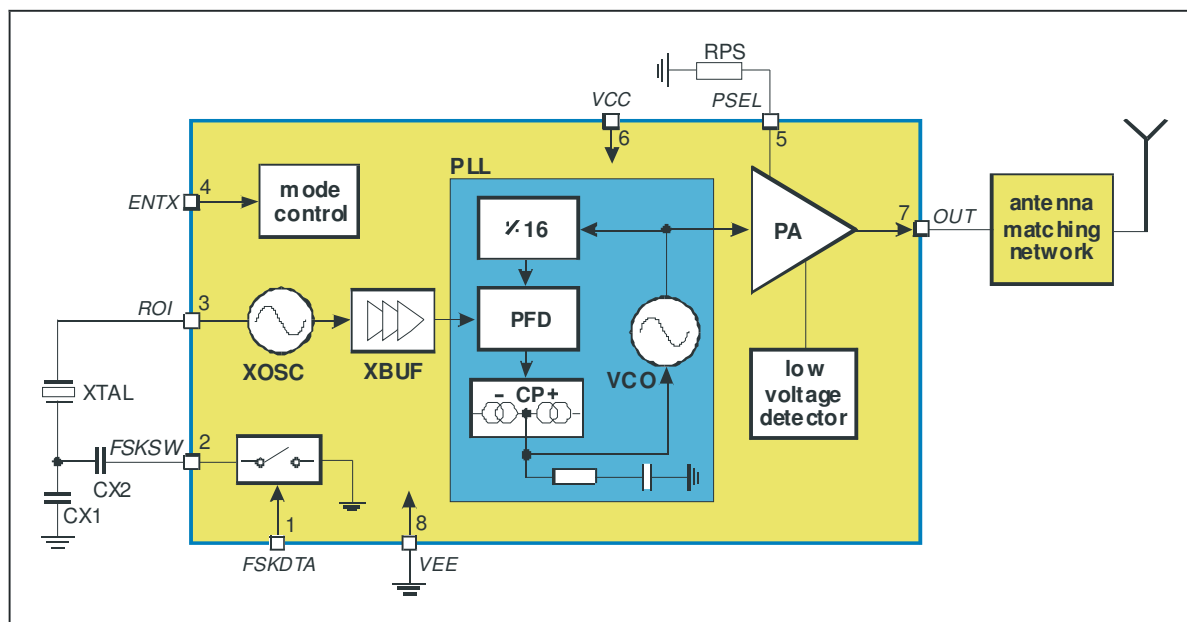

Fig. 1: Block diagram with external components
As depicted in Fig.1, the MLX72013 transmitter consists of a fully integrated voltage-controlled oscillator (VCO), a divide-by-16 divider (div16), a phase-frequency detector (PFD) and a charge pump (CP). An internal loop filter determines the dynamic behavior of the PLL and suppresses reference spurious signals. A Colpitts crystal oscillator (XOSC) is used as the reference oscillator of a phase-locked loop (PLL) synthesizer. The VCO's output signal feeds the power amplifier (PA). The RF signal power  $P_{out}$  can be adjusted in four steps from  $P_{out} = -14$  dBm to  $+11$  dBm, either by changing the value of resistor RPS or by varying the voltage  $V_{PS}$  at pin PSEL. The open-collector output (OUT) can be used either to directly drive a loop antenna or to be matched to a 50Ohm load. Bandgap biasing ensures stable operation of the IC at a power supply range of 1.95 V to 5.5 V.